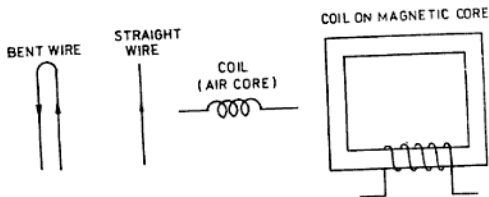

Fig. 11.8: Inductive and non-inductive circuits
**Note:** The inductance of a circuit depends upon the shape and path of the circuit. For example, a bent wire is a non-inductive circuit (Fig. 11.8 (a)). The magnetic field produced by the current flowing in one direction is opposed by the current flowing in the opposite direction. A straight wire is an example of a slightly inductive circuit, while an air-core coil is an inductive circuit. Similarly a coil wound on a magnetic core is an example of a highly inductive circuit.